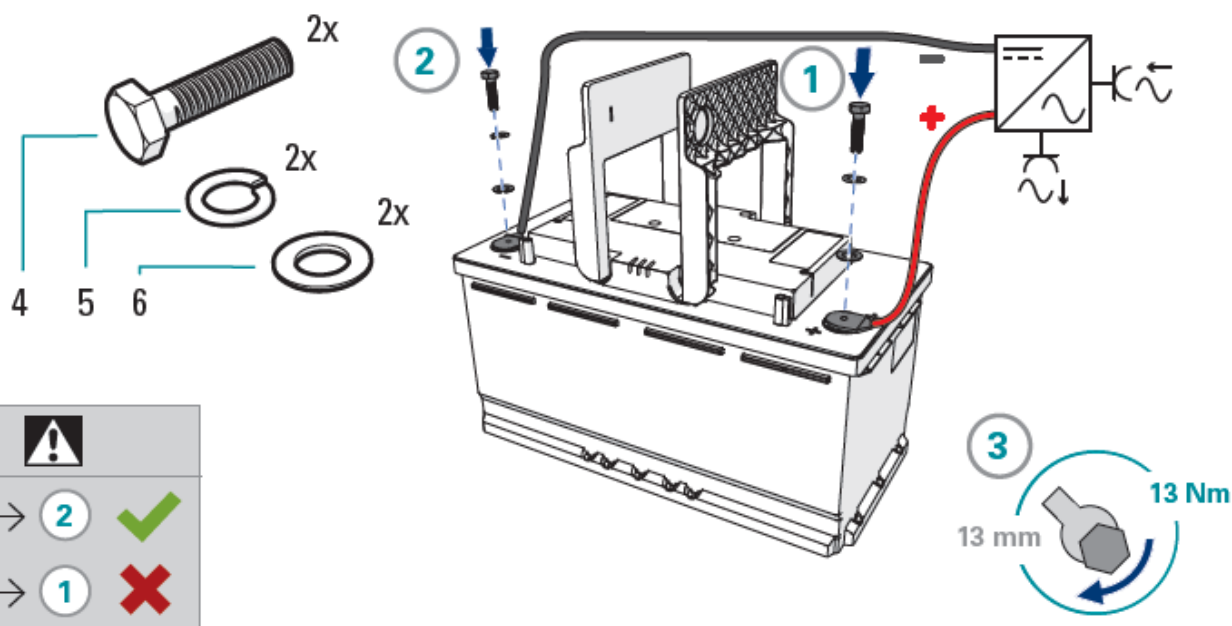

Figure 8: Connect the X1 (–) and X2 (+) terminal of the battery (shrink fit)
2. Connect the positive wire of the load or charger to the positive (+) terminal of the battery, see Figure 8. Use the included M8 bolt, spring washer and plain washer to connect the battery cable.
3. Connect the negative wire to the negative (–) terminal of the battery, see Figure 8. **Error! Reference source not found..** Use the included M8 bolt, spring washer and plain washer to connect the battery cable.